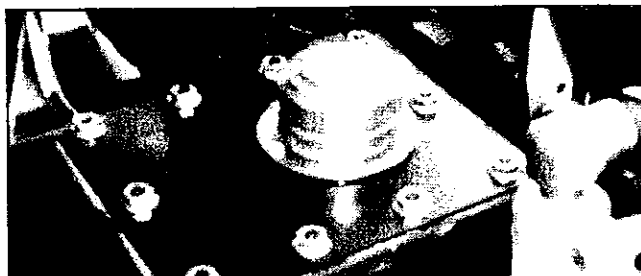

Figure 94: Hydraulic reservoir cap.
When adding hydraulic oil, back blow through the filler cap with low pressure air. If the filler screen is dirty, remove the ten (10) - 5/16" whiz nuts on the access cover and flush screen with solvent and allow to dry before installing. Prior to replacing the access cover, remove the old gasket material from the cover and tank, then replace gasket material using silicone blue (see Figure 94).